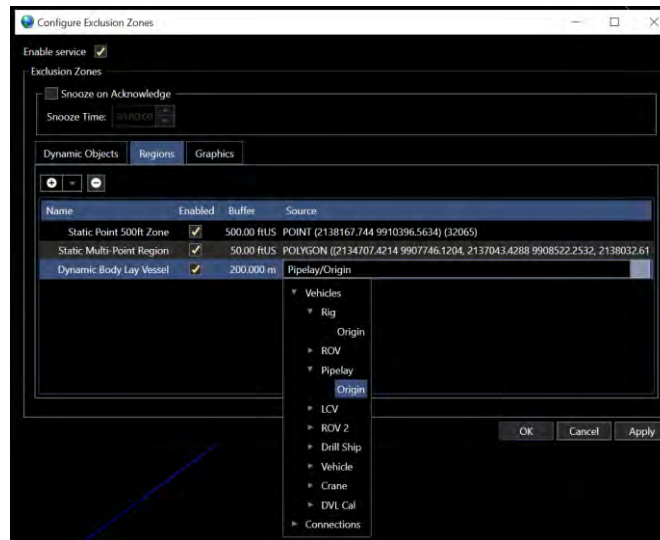

FIGURE 19-18 DYNAMIC BODY REGION - CONFIGURATION WINDOW
4. **Source:** From the Source column, select the data source from the vehicles and their offsets (see Figure 19-18)